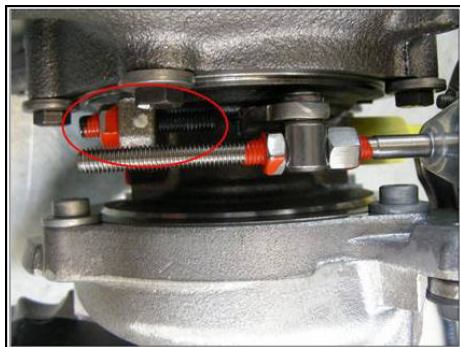

Figure 4
- Inspect the turbocharger stud with clamp nut (min. flow adjustment screw) ( Figure 4).